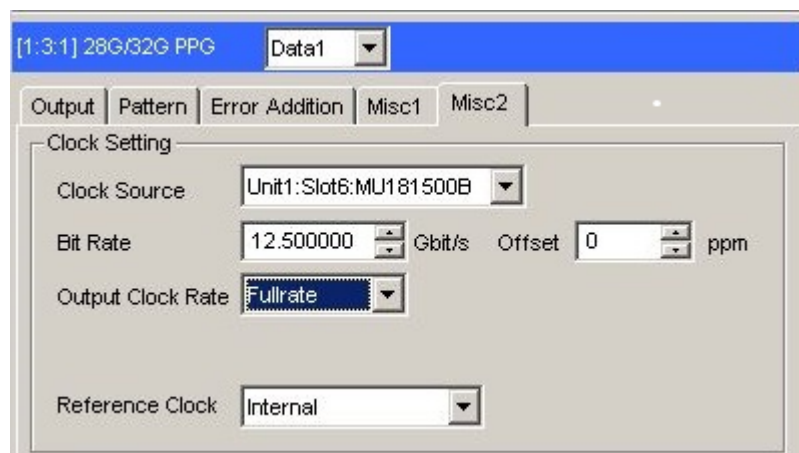

Figure F.3-2 Output Clock Rate Setting on the Misc2 Tab of MU183020A
4. Use a coaxial cable (applicable part, 1.3 m, K connector) to connect MU183020A's **Clock Output** connector and MP1825B's **Clock Input** connector. Then, on the **Misc2** tab of MU183020A, select **Full Rate Clock** in the **Output Clock Rate** box. (Figure F.3-2)
4. Use a coaxial cable (applicable part, 1.3 m, K connector) to connect MU183020A's **Clock Output** connector and MP1825B's **Clock Input** connector. Then, on the **Misc2** tab of MU183020A, select **Fullrate** in the **Output Clock Rate** box. (Figure F.3-2)